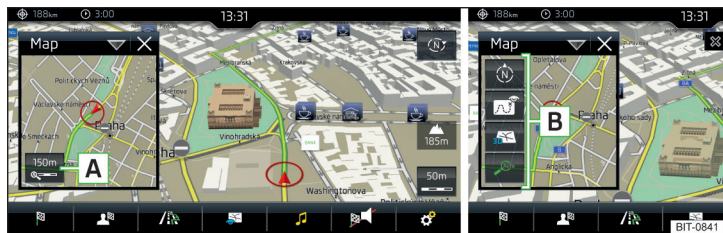

Fig. 227 Map in split screen
► In the split screen, tap on function surface **A** » Fig. 227.